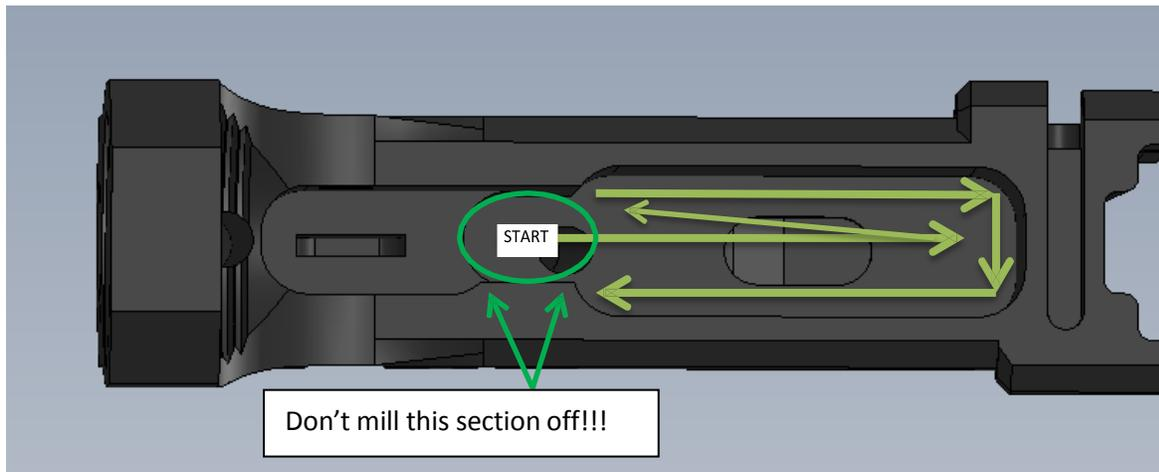

Figure 3
8. Once the fire control pocket and hole #1 are done you can start going straight across into the wider fire control pocket area to clear smooth out the floor and side walls to refine or smooth them out. It's important to start clearing out the hole from debris so you can see what you are doing. A strong light and a shop vac are useful. Figure 3 shows you the technique and pattern you should follow while plunging and milling.
9. Note: Now that we're going to start drilling and cleaning out the main fire control pocket using a milling procedure, it's important to note that the drill bit in a drill press is spinning in a clock-wise direction towards you, from right to left. **ASSUMING YOU ARE USING A CROSS SLIDE VISE** therefore, when moving the jig underneath in the slide vise, follow the path pictured in Figure 3 to prevent the bit from jumping and chattering. You will work against the grain in one sense, rather than allowing the bit to grab and run.
11. **Each time you go through this process, FOLLOW THE PATH IN FIGURE 3.**